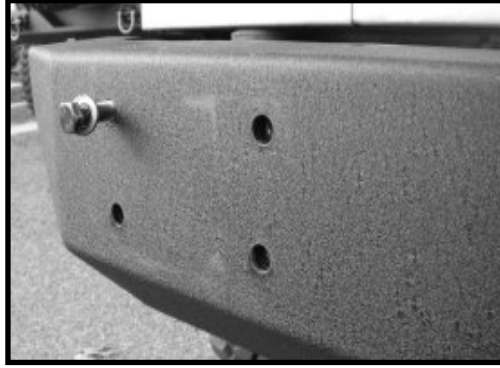

Figure 18.
13. Using a supplied M12 x 60 bolt and washer, thread into upper left corner of the bumper and sub-frame (Figure 18). It will be necessary to lift and/or shift the sub-frame in order to line up all of the holes.